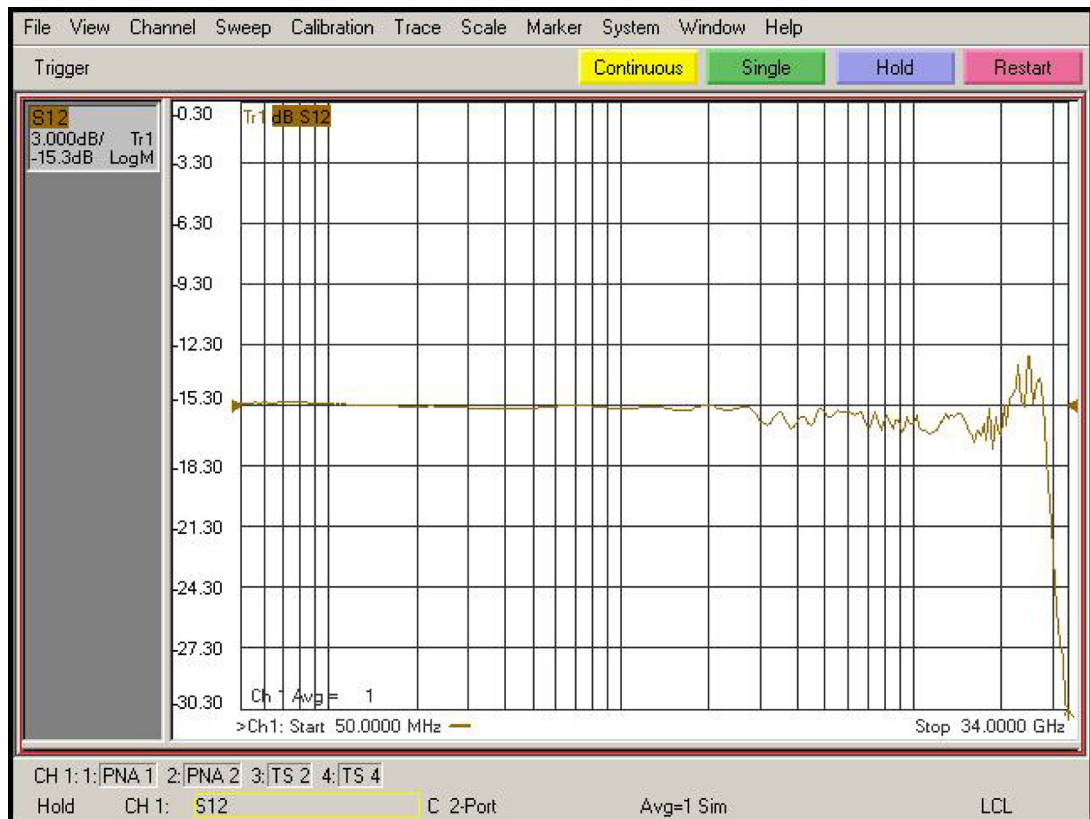

Figure 66 De-embedded "Vout" trace
- c Display should look like **Figure 66**. If it looks noticeably different, the probe tip wires may not be making contact under the pinchers.